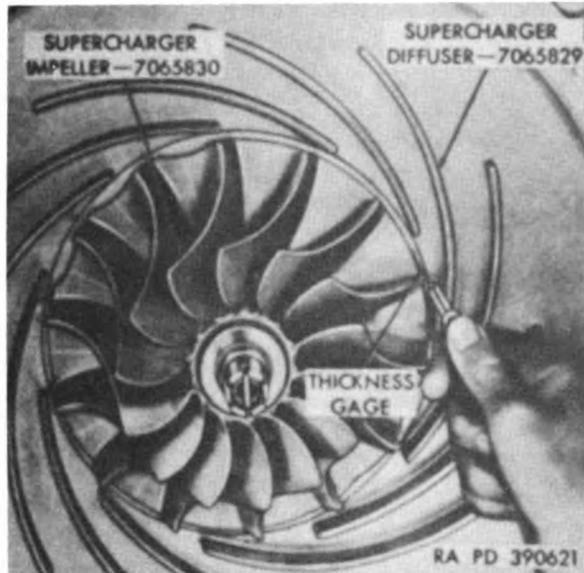

Figure 117. Checking clearance between supercharger impeller and diffuser.
- (3) Install the same number of supercharger impeller shims (L) on impeller driven shaft gear as were removed in disassembly. Install supercharger impeller (K) on shaft gear.
- (4) Install wrench 7083730 (fig. 107) on impeller driven gear and move impeller up tight to diffuser. Check clearance between impeller and diffuser as shown in figure 117. Clearance should be between 0.0300 and 0.0350-inch.
- (5) If clearance is not within limits specified in (4) above, remove impeller (par. 119) and add or remove shims (L), as necessary, to obtain the specified clearance. Install impeller ((3) and (4) above) and again check clearance between impeller and diffuser.
- (6) Install  $1\frac{3}{64}$  id,  $1\frac{1}{8}$  od,  $\frac{3}{32}$  thick flat washer (Q) on impeller driven shaft gear. Install impeller locking nut (J) on shaft gear.